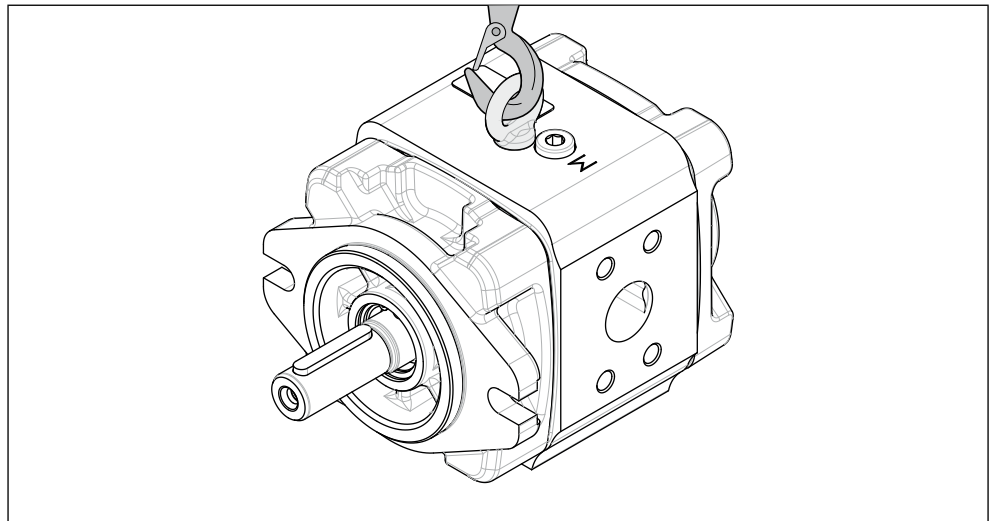

Fig. 4: Transportation with eye bolt
- ▶ Lift the internal gear pump with the eye bolt screwed in, as shown in Fig. 4.